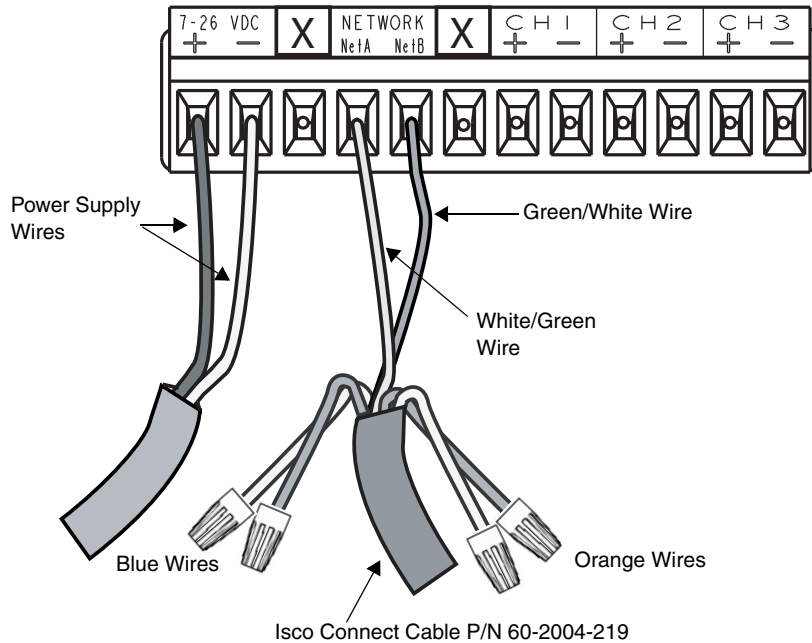

Figure 2-6 Terminal connections if flow module is powered separately
5. Your connections should look like those in Figure 2-6.